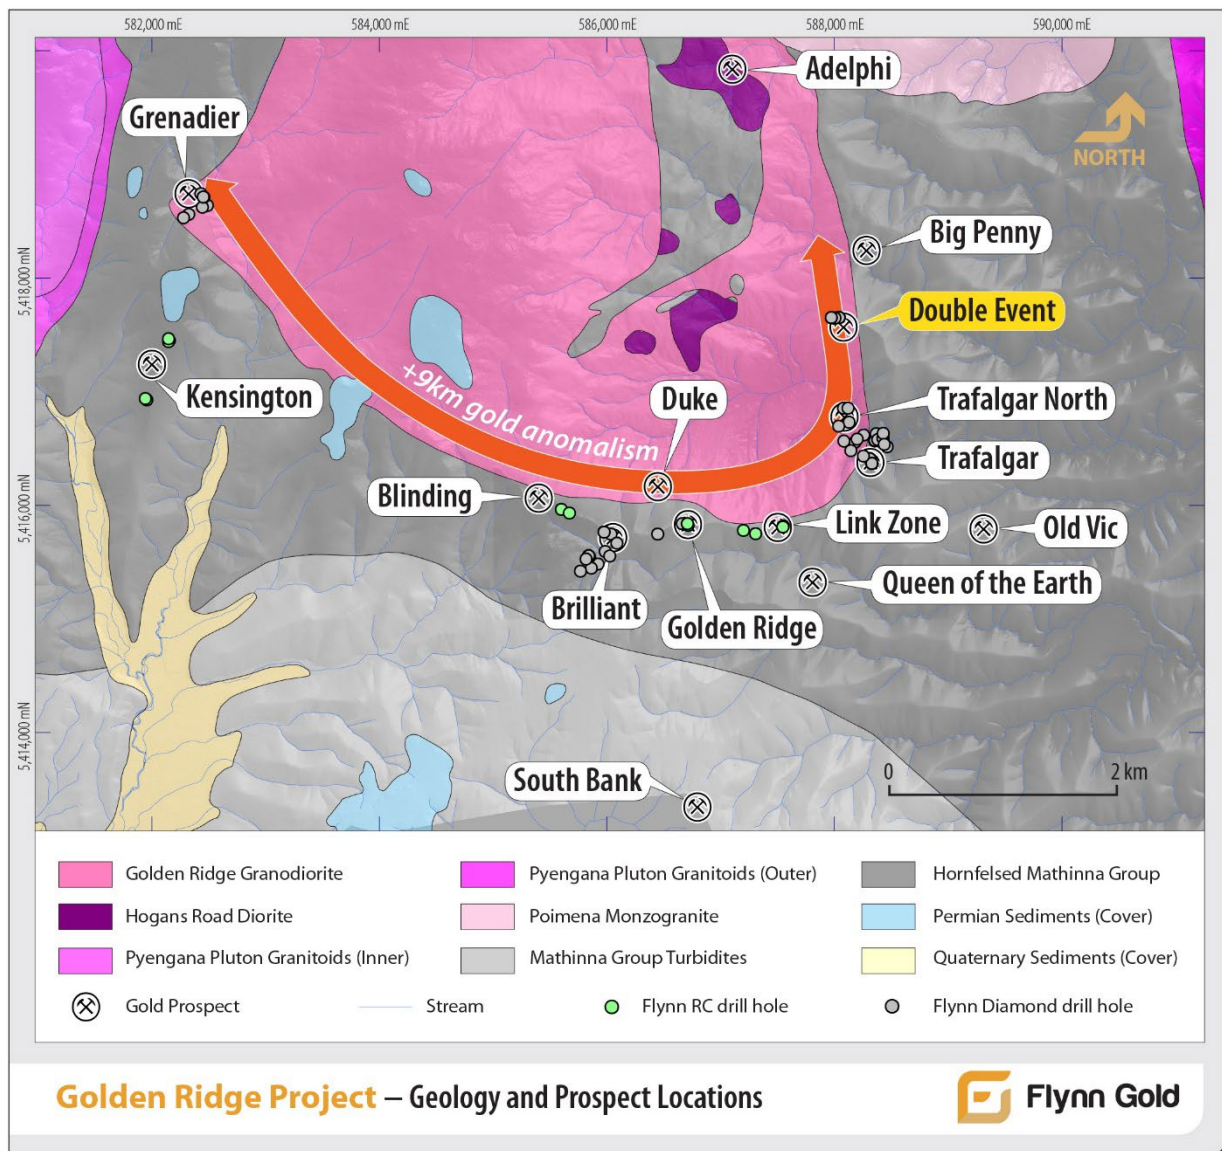
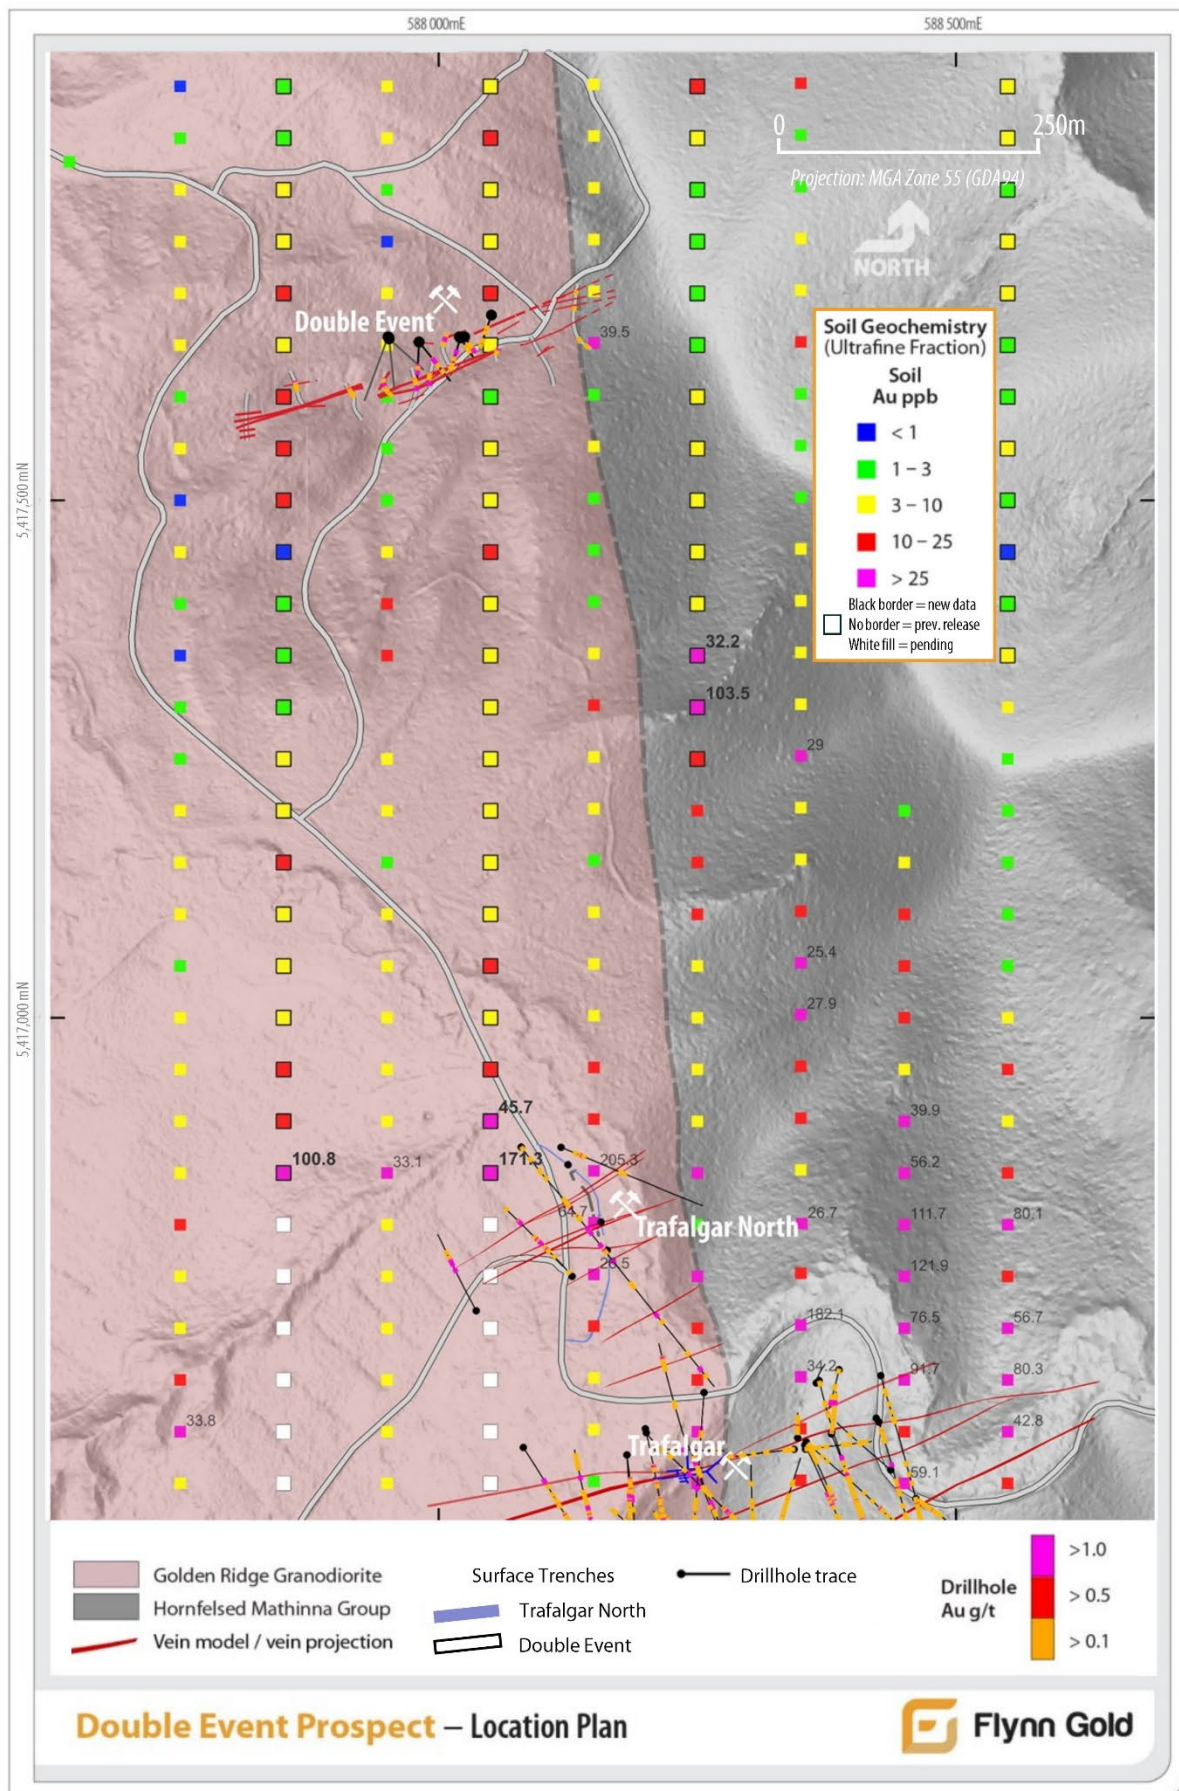

Figure 2 – Golden Ridge Project – Geology and Prospect Locations.
Figure 3 – Double Event Prospect – Geology, Soil Sampling and Prospect Locations.
The Double Event Prospect is located approximately 1km north of Flynn's high-grade Trafalgar Prospect, along the same granodiorite-metasediment contact (Figure 2 & Figure 3). Historical gold workings at Double Event were first recorded in Tasmanian Government reports from 1899¹, which describe a steeply north-dipping quartz vein hosted within weathered granite. The vein was reported to widen to 0.6-0.9m in places and returned grades of up to 4.3oz/t (~133.7g/t Au)² from the bottom of a 60-foot (18m) shaft.
These features define a 1km prospective corridor linking Double Event in the north to Trafalgar North and Trafalgar in the south along the eastern margin of the Golden Ridge Granodiorite. This corridor remains largely untested and is strongly anomalous in UFF soil sampling, highlighting the potential for repetitive sub-parallel mineralised vein sets between the known prospects (Figure 3).
- New anomaly emerging southeast of Double Event and north of Trafalgar North including 32.2ppb Au and 103.5ppb Au (see Figure 3).
- Trafalgar North: Expansion of the geochemical footprint westward into the granodiorite interior: including highly anomalous values of 171.3ppb Au, 100.8ppb Au and 45.7ppb Au (see Figure 3).
Flynn Gold has now completed maiden diamond drilling programs at both the Grenadier and Double Event prospects, successfully advancing exploration beyond the Company's most developed prospect at Trafalgar (Figure 2).
Exploration undertaken by Flynn at Golden Ridge has identified extensive intrusive-related type gold mineralisation (IRGS) extending over a 9km-long zone along the southern contact margin of the Golden Ridge Granodiorite and enclosing metasediments (Figure 2).